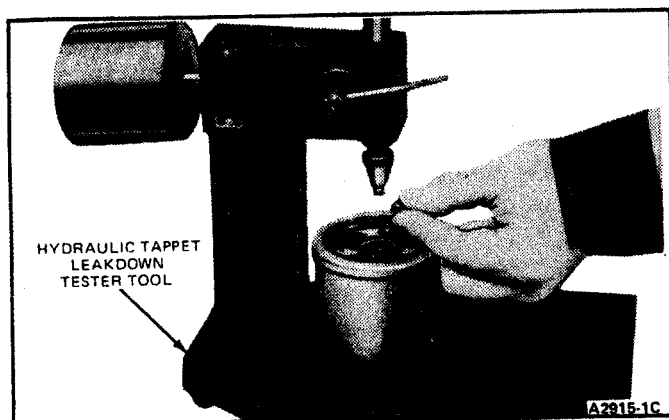

FIG. 18 Placing Steel Ball in Valve Tappet Plunger Cap
3. Place the 5/16 inch steel ball provided with the tester in the plunger cap (Fig. 18).